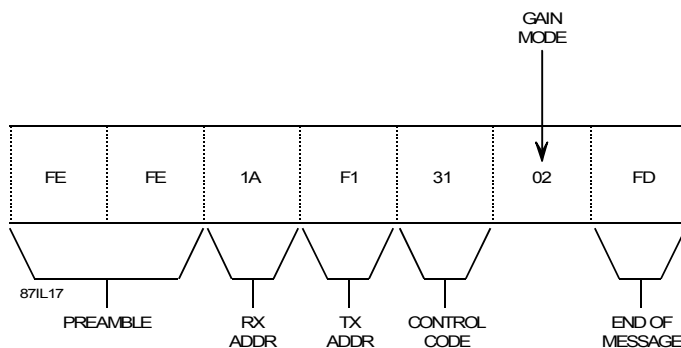

**Figure 5-11. Detection Mode/IF Bandwidth Request Response Format**
**Figure 5-11** shows an example of the typical response format when requesting the receiver's detection mode and IF bandwidth with control code [04].